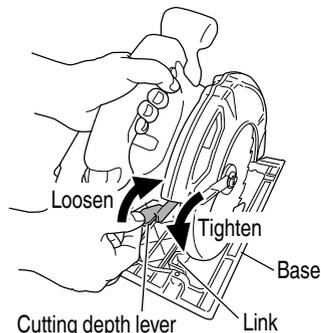
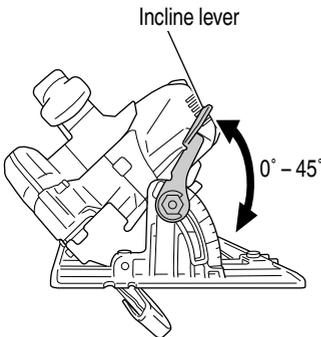

Fig. 18
Fig. 19
If the cutting depth lever to adjust cutting depth (Fig. 18) and the incline lever to adjust angle of inclination (Fig. 19) are loose, injury can result. Make sure that they are tightened securely.
1. Adjusting the cutting depth (Fig. 18)
As shown in Fig. 19 by loosening the incline lever on the bevel scale, the saw blade may be inclined to an angle of 45° in relation to the base.
If the lever to adjust cutting depth (Fig. 18) is loose, injury can result. Make sure that it is tightened securely.